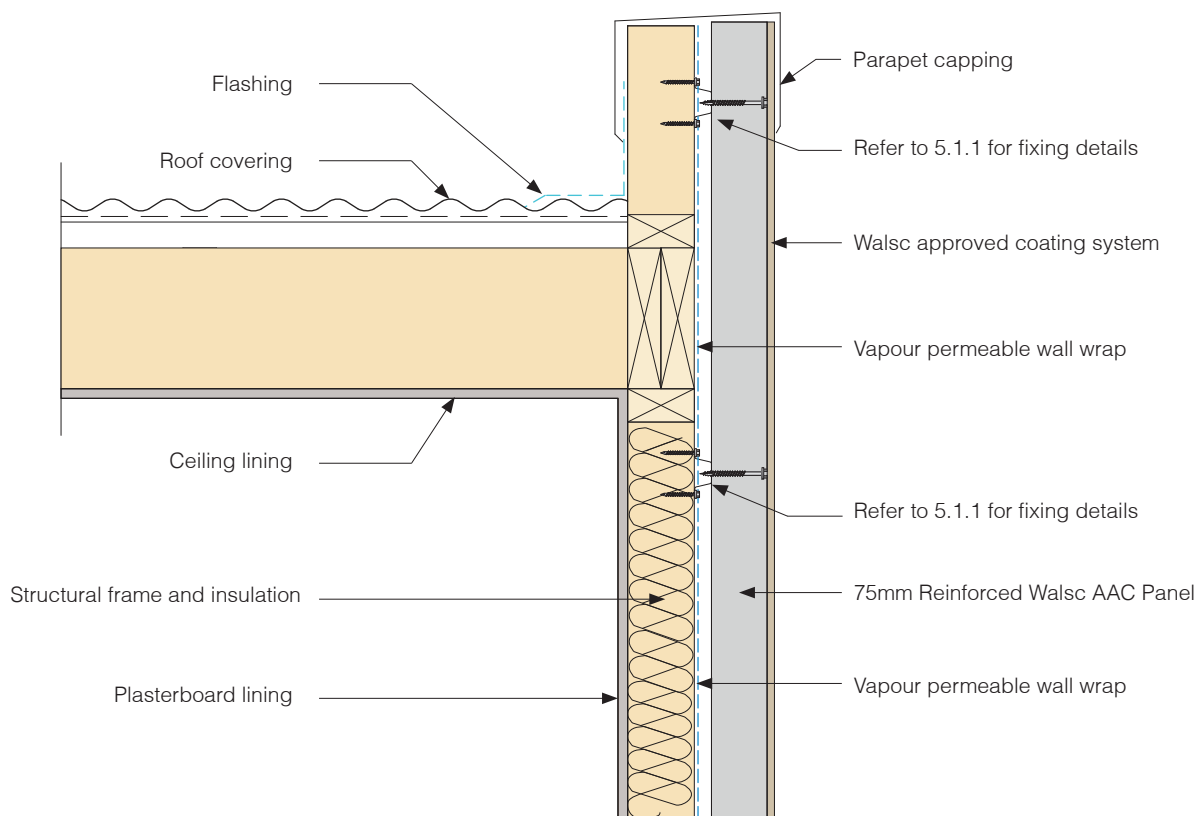

**Fig 9.2 Junction to Panel Below Finish Ground Level Detail 2**
**\*Notes apply to Fig 9.1 & Fig 9.2:**